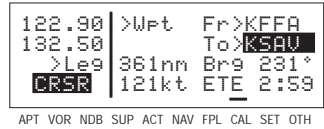

Figure 4-40
- Verify the waypoint information displayed, and then press **ENT** again to approve the waypoint page. The display will return to the page previously displayed (figure 4-40).